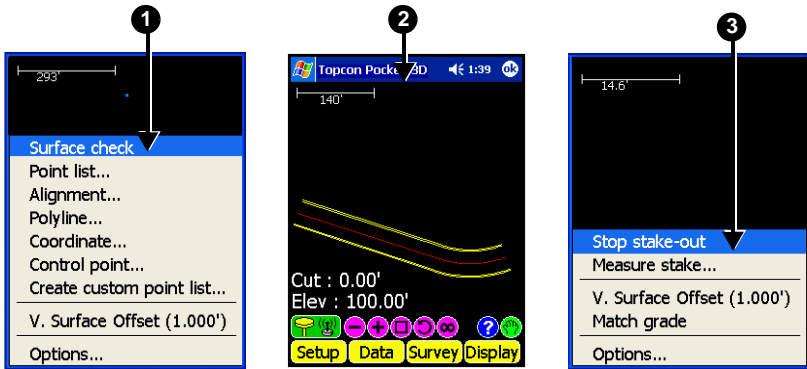

Figure B-21. Perform a Surface Check
1. Tap **Survey** ▶ **Stake-out** ▶ **Surface check** (Figure B-21).